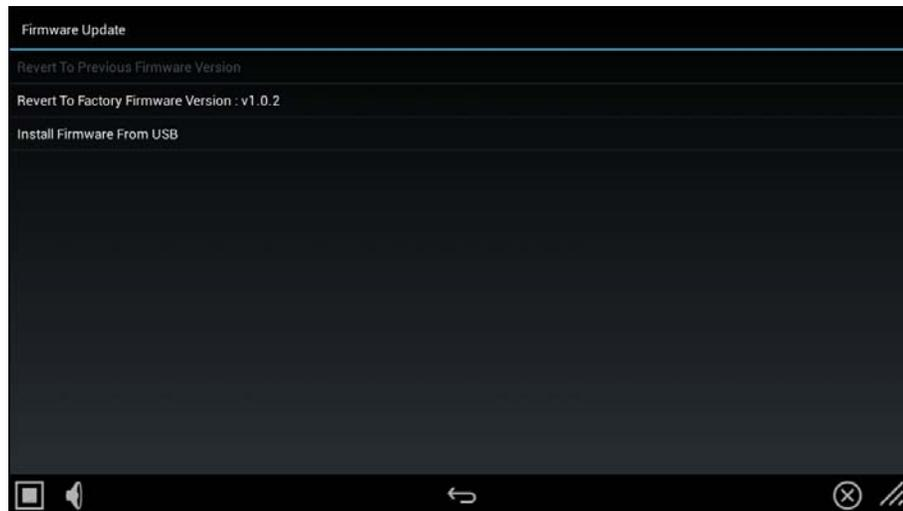

FIG. 24 Firmware Update window
1. From the *Reset and Update* menu, select *Update Firmware* to open the *Firmware Update* window (FIG. 24).